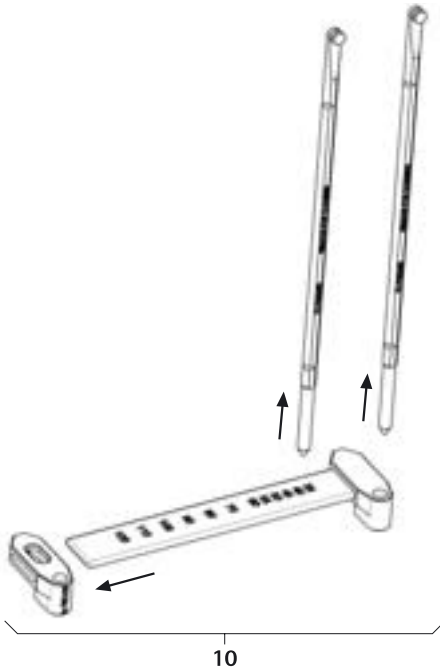

Fig. 5
- Dismount rod length measuring instrument **10**, see Fig. 5.